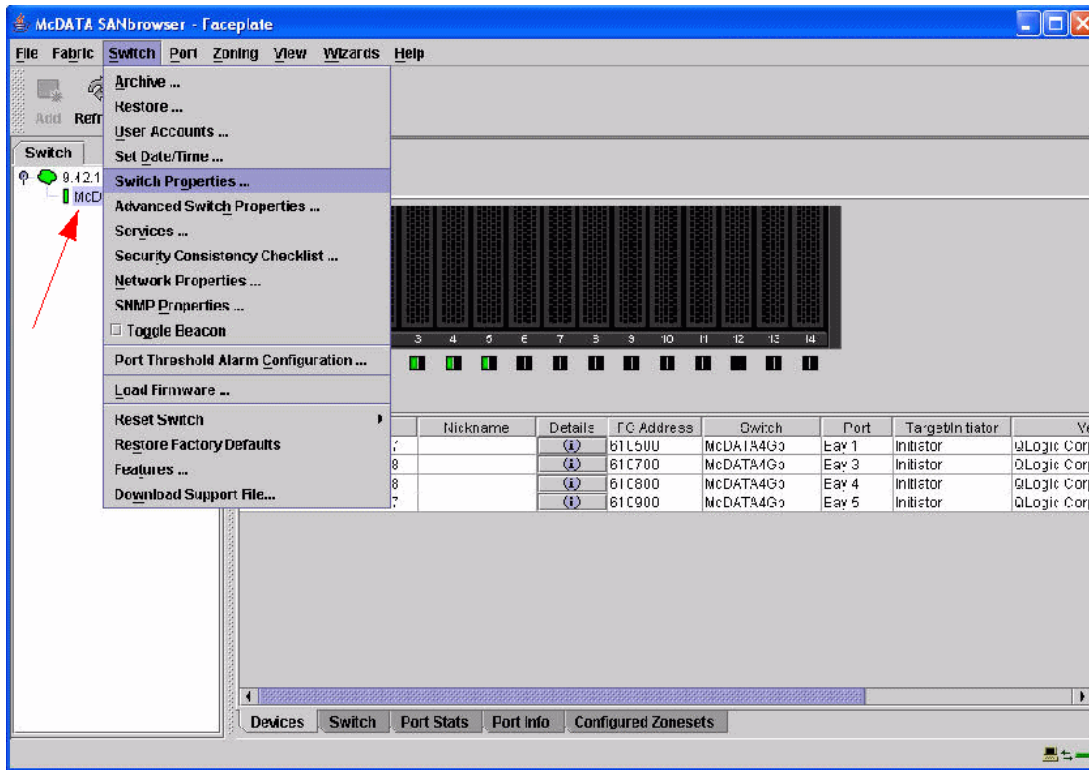

Figure 6-4 McDATA SANbrowser - Faceplate window
- From the Topology window in the left pane, click the drop-down tree and double-click the IP address. Next, select your switch (in our example, McDATA4Gb). Select **Switch** → **Switch Properties...** (Figure 6-4).